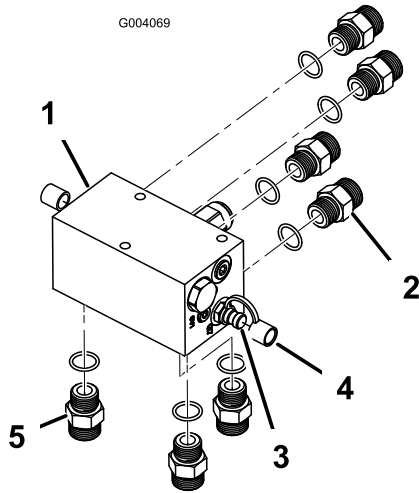

Figure 4
1. Install 4 straight hydraulic fittings into the rear of the manifold (Figure 4).
2. Install 2 diagnostic fittings into either side of the manifold along with dust caps (Figure 4).
3. Install 3 straight hydraulic fittings into the bottom of the manifold (Figure 4).